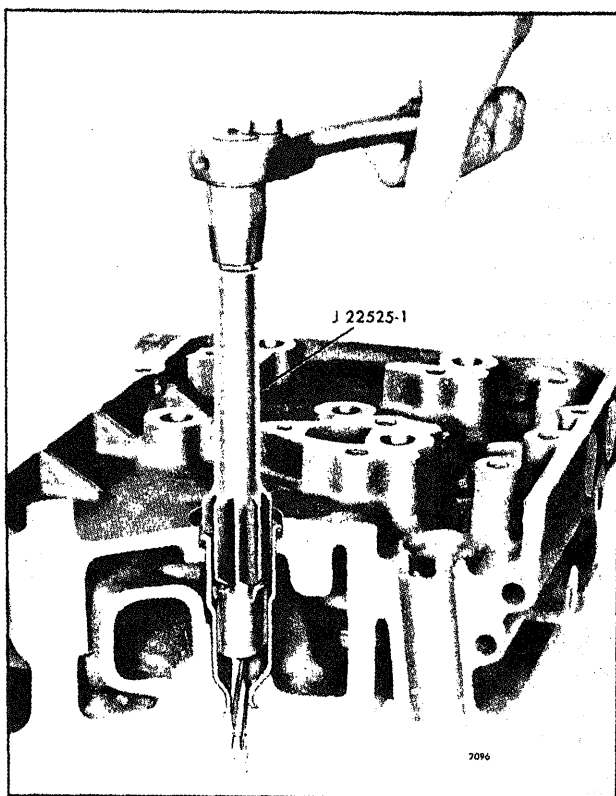
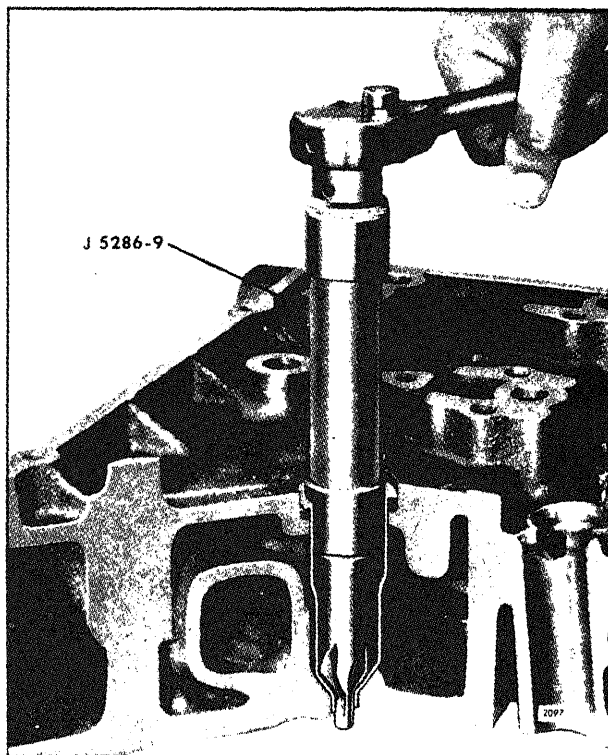

Fig. 4 - Reaming Injector Tube for Injector Body Nut and Spray Tip
Fig. 5 - Reaming Injector Tube for Injector Nut
When an injector tube has been installed in a cylinder head it must be finished in three operations: First, *reamed*, as shown in Fig. 4, to receive the injector body nut and spray tip; second, *spot-faced* to remove excess stock at the lower end of the injector tube; and third, *hand reamed*, as shown in Fig. 5, to provide a good seating surface for the bevel or the shoulder of the injector nut. Reaming must be done carefully and without undue force or speed so as to avoid cutting through the thin wall of the injector
- b. Turn the reamer in a clockwise direction (withdrawing the reamer frequently for removal of chips) until the lower shoulder of the reamer contacts the injector tube (Fig. 4). Clean out all of the chips.